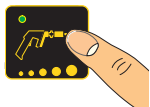

Figure 6.3: Selecting Single -Sided weld mode
1. Make sure the welder is turned on. Push the Single-Sided weld mode button (fig 6.3). The green light will light up when engaged.